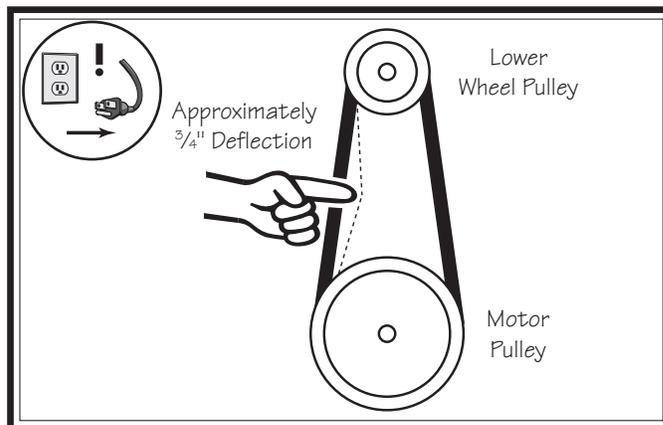

Figure 88. V-belt deflection.
4. Check V-belt tension by applying moderate pressure between pulleys (see **Figure 88**).